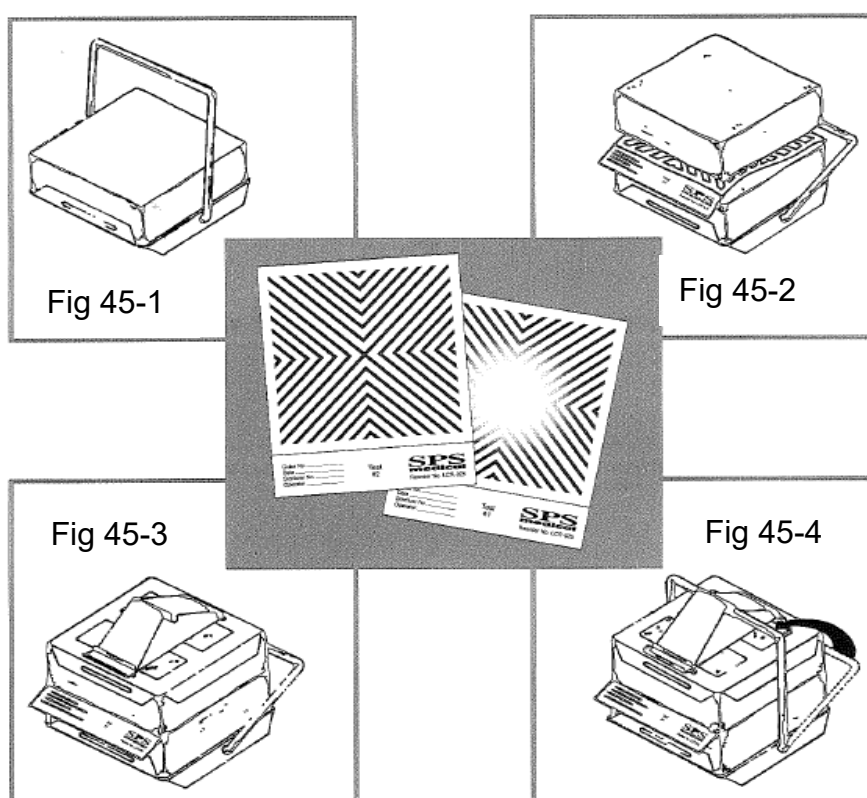

Figure 45
1. Assembly of the cube is reference Figure 45.